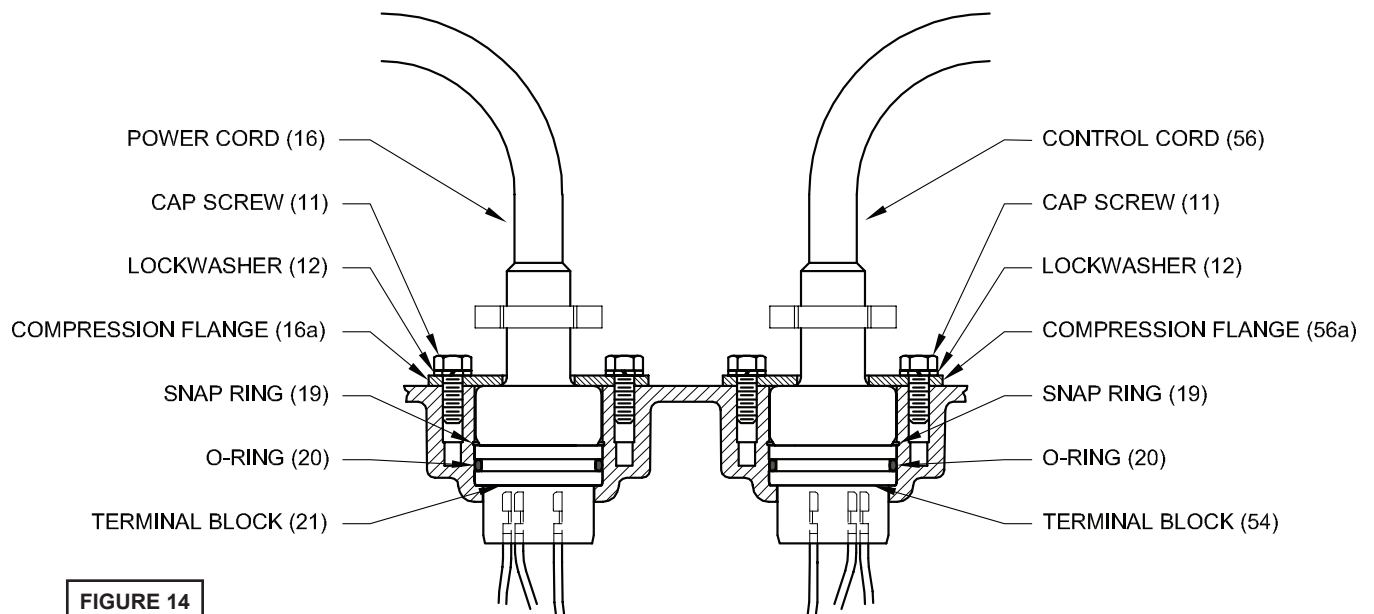

FIGURE 14
Reconnect motor and optional control leads to the underside of the terminal block(s) (21), (54 optional) as shown in Figure 14. Note that the pins are numbered underneath the terminal block. Place o-ring (20) into groove in terminal block and lubricate with dielectric oil. Press the terminal block (21) into the housing so it seats completely below the snap ring groove. Place snap ring (19) into groove in cord entry bore of housing. Repeat terminal block installation for control cord, if equipped.